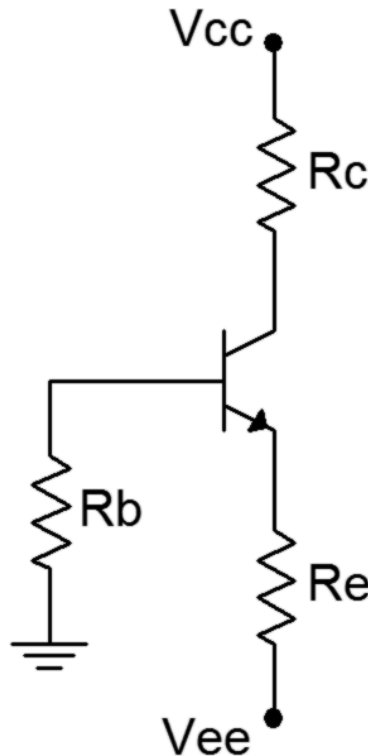

Figure 1
1. Consider the circuit of Figure 1 using  $V_{CC} = 15$  volts,  $V_{EE} = -12$  volts,  $R_B = 33\text{ k}\Omega$ ,  $R_E = 22\text{ k}\Omega$  and  $R_C = 15\text{ k}\Omega$ . Using the approximation of a negligible base voltage, determine the ideal end points of the DC load line and the Q point, and record these in Table 1.
3. Build the circuit of Figure 1 using  $V_{CC} = 15$  volts,  $V_{EE} = -12$  volts,  $R_B = 33\text{ k}\Omega$ ,  $R_E = 22\text{ k}\Omega$  and  $R_C = 15\text{ k}\Omega$ . Measure the base, emitter and collector voltages and record them in the first row of Table 2 (Experimental). Compute the deviations between theoretical and experimental and record these in the first row of Table 2 (% Deviation).
- Build the circuit of Figure 1 in a simulator. Run a DC simulation and record the resulting transistor voltages in Table 6.